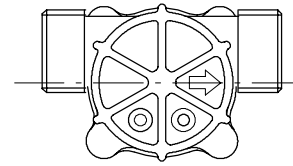

Fig. 6. Not recommended mounting position
- Provided the **shaft of the rotor is horizontal**, most positions are acceptable, but the position as indicated in fig. 6. is not recommended because water will remain in the sensor when the installation is drained (frost risk).